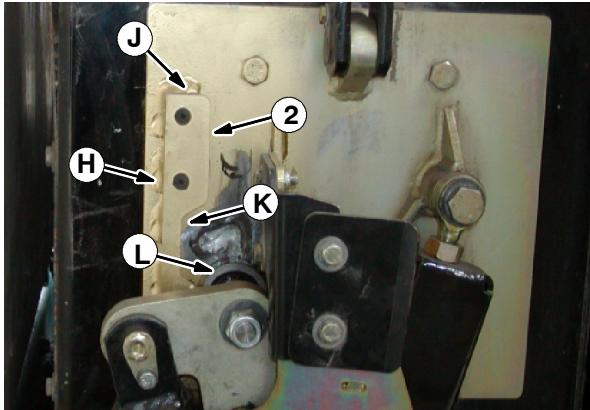

FIG. 3
8. Position the plate fixture (1) (not shown) against the front cam bracket (G).
9. Position a cam (2) against the plate assembly (1) positioned on the front cam bracket.
10. Weld the cam (2) onto the plate. Weld only along the outer edge (H) and the top (J) and bottom of the cam. Be sure the cam stays flat against the plate when welding the cam into place. **Do not** weld along the inner edge (K) of the cam where the cam roller bearing (L) travels. Refer to Fig. 3.